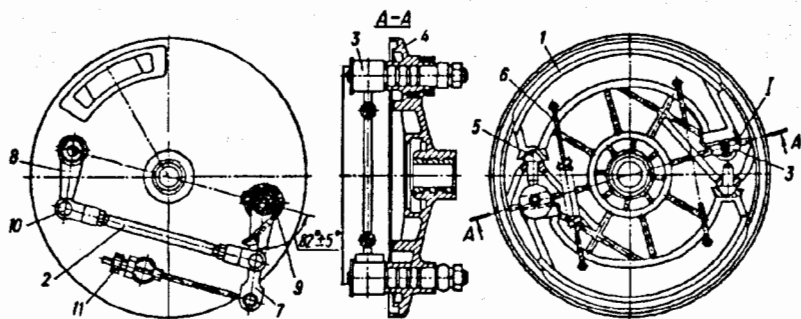

Fig. 28. Front-wheel brake:
Front-wheel brake. Brake shoes 1 (Fig. 28) rest with their spherical seats on the heads of tappets 5, and with their pressure pads, on cams 3 installed in disk 4. Attached to the cams by means of slots are driving (7) and driven (8) levers arranged on the face side of the brake disk.
mount the driving and driven levers and secure them to the cam slots, maintaining angles of $82^\circ \pm 5^\circ$ as shown in Fig. 28. Error in parallelism of the levers must not be greater than 5° .